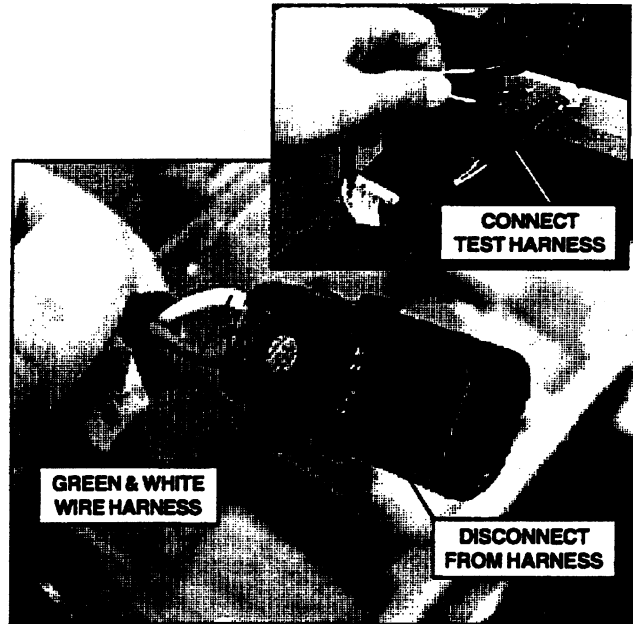

FIGURE 9.1
1. With engine "OFF" and sensor harness (Green & White wires) disconnected, connect the KOBELCO RPM Sensor Test Harness to the RPM Sensor Harness. See Figure 9.1.